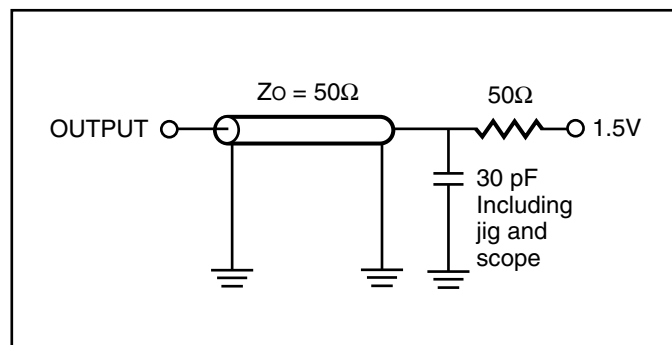

Figure 1.
Output Load	See Figures 1 and 2
1. Test conditions and output loading conditions are specified in the AC Test Conditions and AC Test Loads (Figure 1).